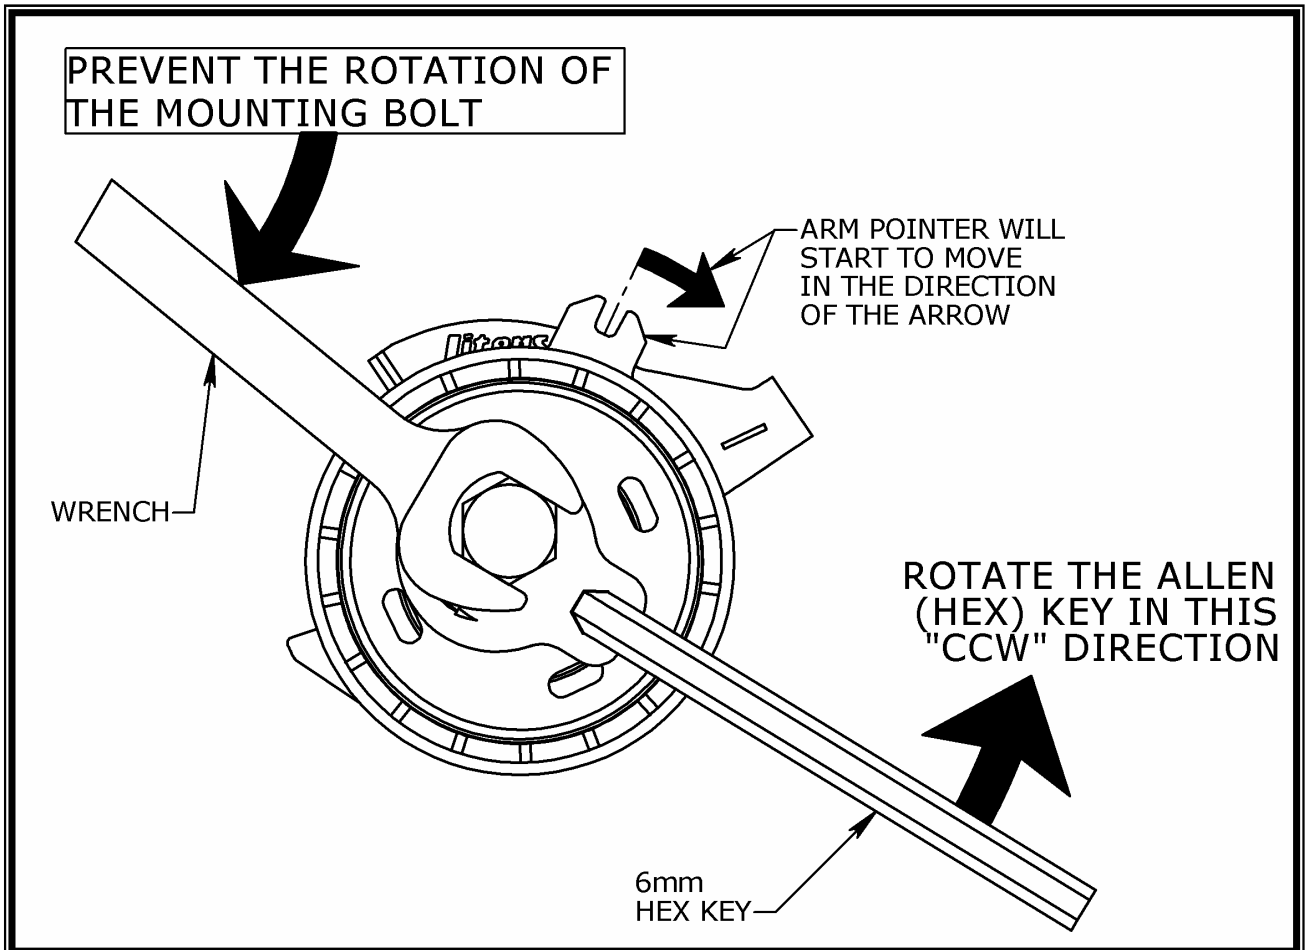

Figure 4: Timing Belt Tensioner Rotation direction during installation.
8. Using a wrench to prevent the rotation of the mounting bolt, rotate the *Installation Shaft* CLOCKWISE with a 6 mm *Hex Key*. The Tensioner assembly will move against the belt and the *Arm Pointer* will eventually start to move CLOCKWISE (See Fig. 4).